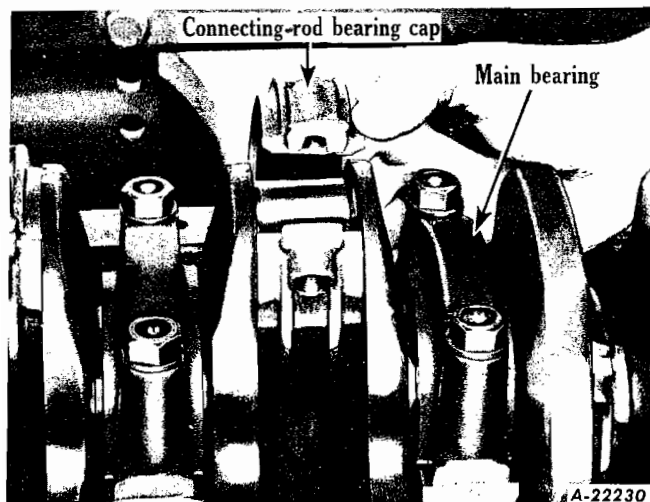

Fig. 21
4. Each connecting rod is numbered as to its position in the engine and these numbers are located on the camshaft side of the engine. Remove self-locking capscrews from connecting-rod cap and remove cap (Fig. 21). Push connecting-rod and piston assembly toward top of block. Lift piston and connecting-rod assembly from top of cylinder block. Replace cap on connecting rod. Remove the remaining pistons, following the same procedure.